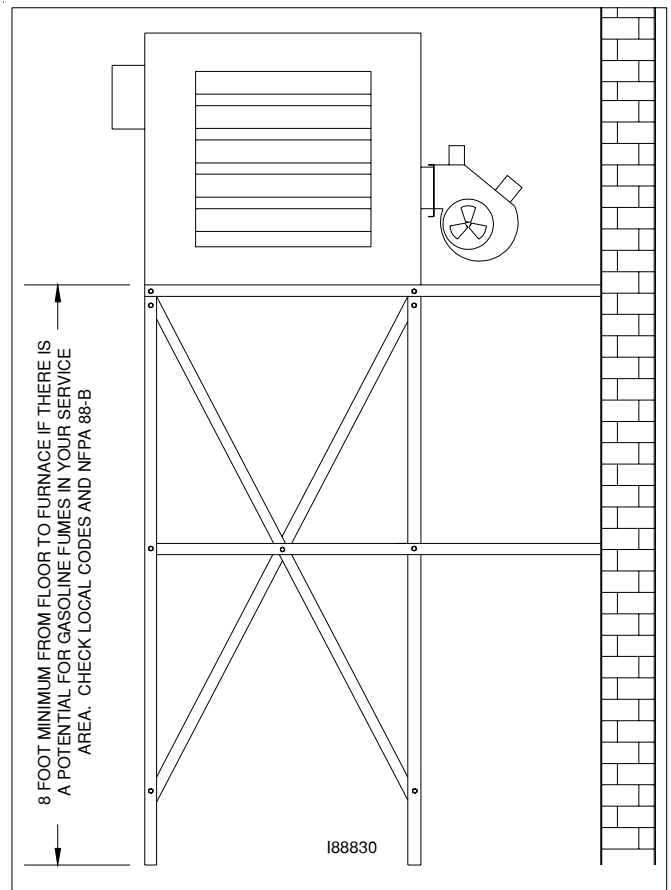

FIGURE 4D - Furnace Installed on Raised Platform
1. Refer to Figure 4D and follow the instructions as provided in the diagram.